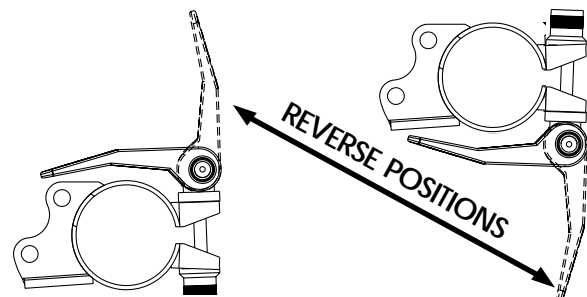

FIGURE 16 - REPOSITIONING QUICK RELEASE LEVERS
REPOSITIONING QUICK RELEASE LEVERS (FIGURE 16)
3. If necessary, position the recessed washer and covered washer onto the quick release lever, as shown in FIGURE 16.
4. Insert the quick release lever with washers through the camber clamp as shown in FIGURE 16.